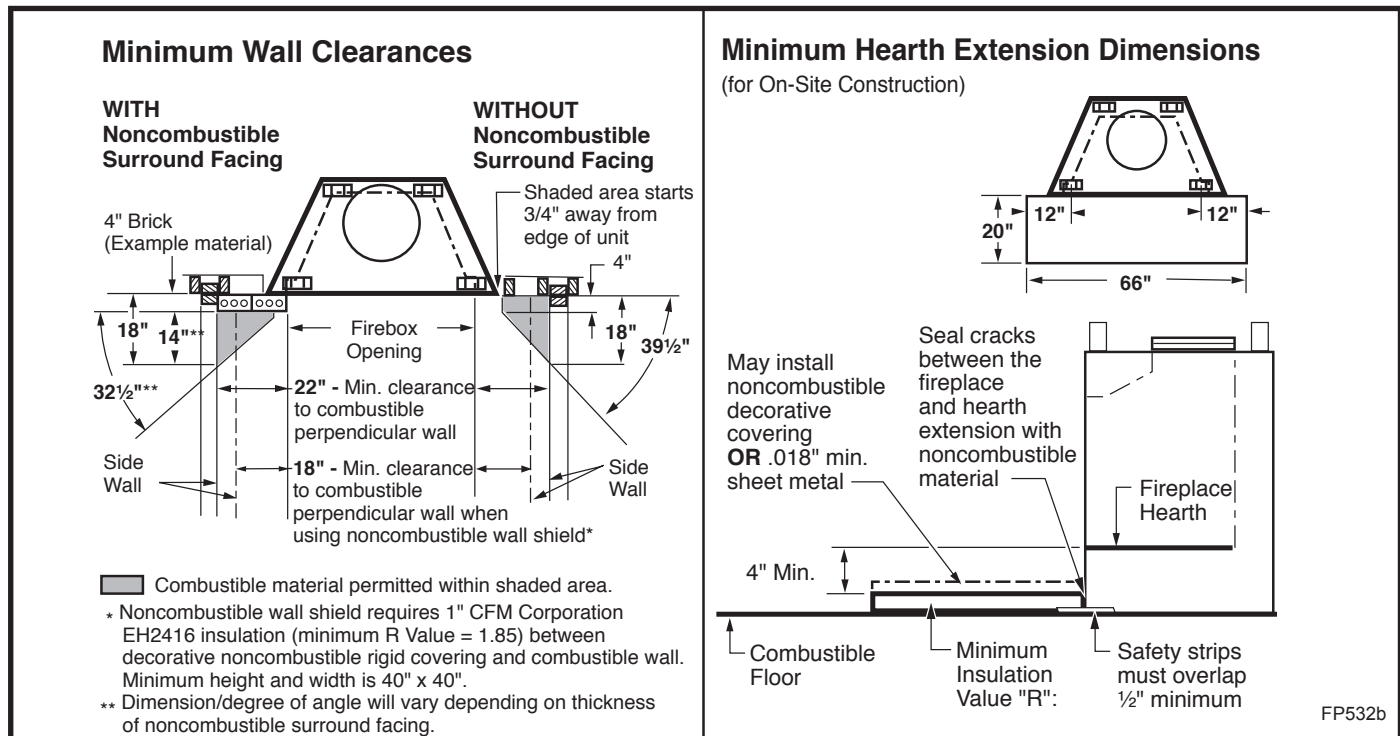

Fig. 27 Combustible side wall protection and hearth extension dimensions.
A hearth extension is required to protect a combustible floor in front of the fireplace. Refer to Figure 27 for minimum dimensions and mounting detail.
The hearth extension described in Figure 27 must be a durable noncombustible material with a minimum (total) Rt value of 1.09; refer to Figure 28 for examples. The overall height (above a combustible floor), depth and width must be as indicated, with the extension centered to the fireplace opening.
The top of insulation must be covered with a non-combustible decorative covering **or** a piece of .018" minimum sheet metal, to protect hearth extension material. (Fig. 27)
Secure the hearth extension to the floor to prevent shifting, using trim molding or other similar means at three (3) outer edges. Seal crack between the fireplace hearth and hearth extension with a noncombustible material. (Figs. 27, and 29 - 31)